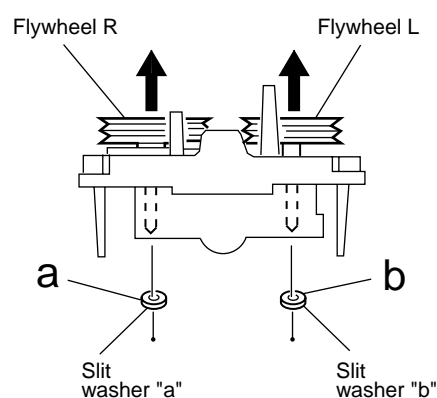

Fig. 9
■ Removing the Flywheel (See Fig. 9,10)